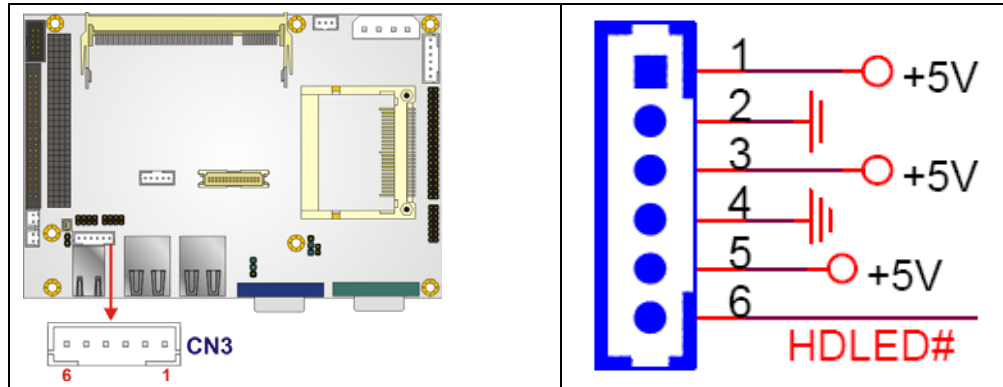

Figure 4-9: LED Connector Locations
- CN Location:** See **Figure 4-9**